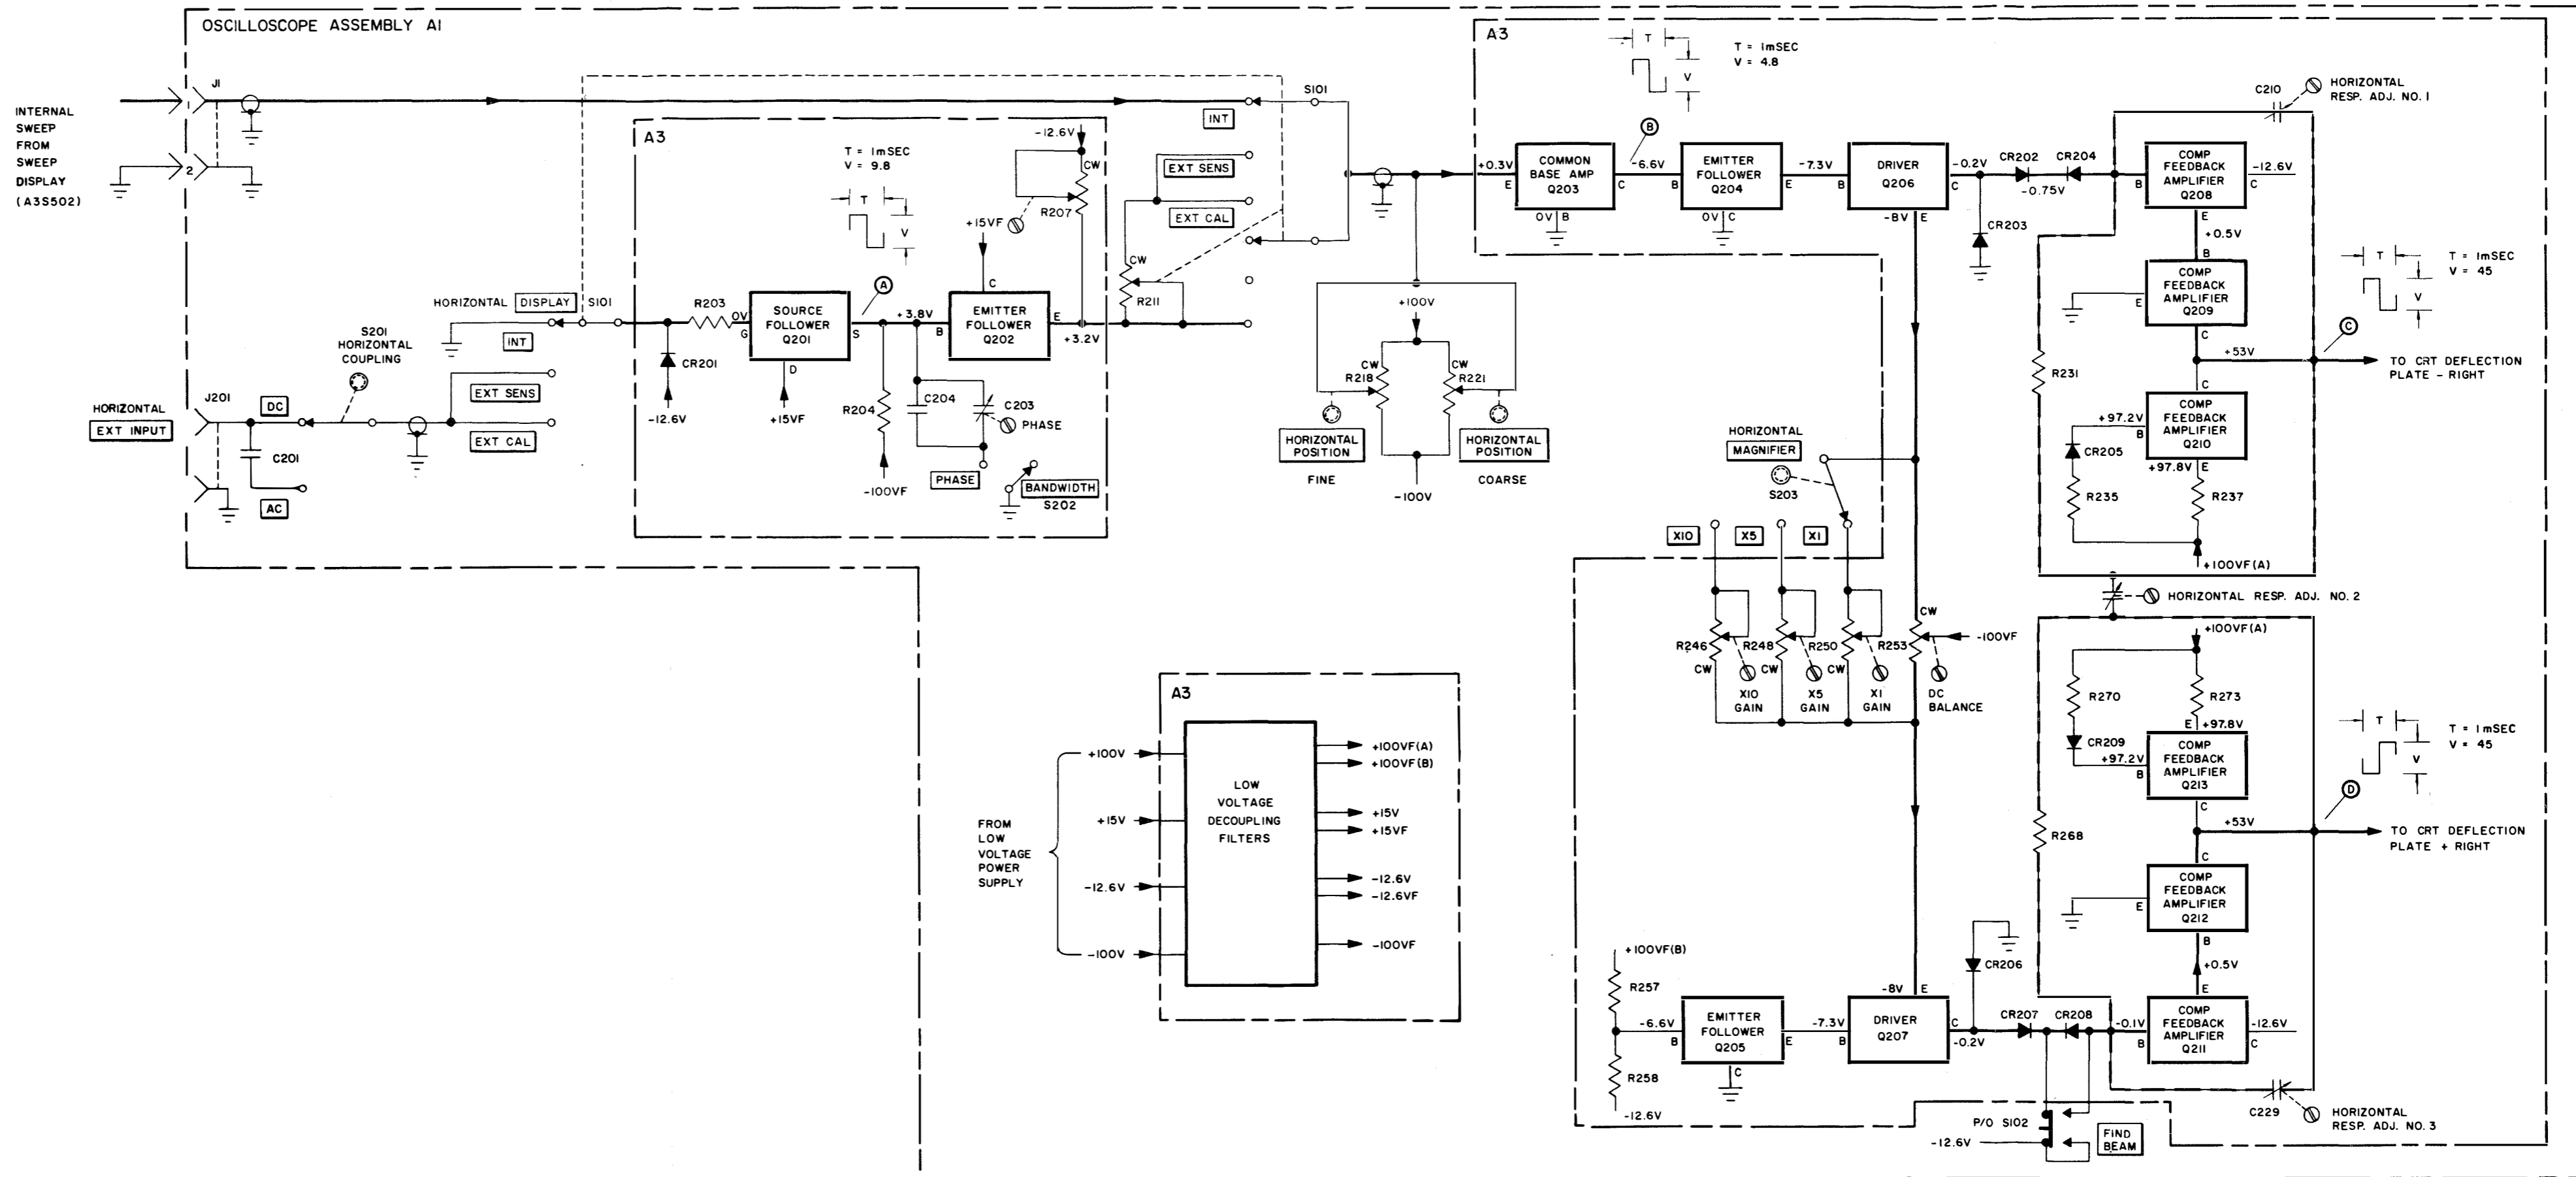

Figure 4-5. Horizontal Amplifier
a. HORIZONTAL AMPLIFIER FUNCTIONAL DESCRIPTION. - The input to the horizontal output amplifier (A1A3Q203 through A1A3Q213) is selected by horizontal DISPLAY switch A1S101. See figure 4-5. When A1S101 is set to the INT position the input to the preamplifier (A1A3Q201 through A1A3Q202) is grounded and the internal sweep signal from the time base and delay generator is applied to the horizontal output amplifier. When A1S101 is set to the EXT SENS or EXT CAL position, the internal sweep is removed from the horizontal output amplifier and the preamplifier output is applied to the horizontal output amplifier. The input preamplifier is connected to the horizontal EXT INPUT connector. When horizontal DISPLAY A1S101 is in the EXT SENS position, the output of the preamplifier is adjustable by rotating A1S101 between the EXT SENS and EXT CAL positions. In the EXT CAL position, A1R211 is shorted and the output amplitude of the preamplifier is determined only by input amplitude.
b. HORIZONTAL AMPLIFIER TROUBLE SHOOTING. - The trouble-shooting chart for the horizontal amplifier functional section is provided in table 4-5 and the servicing block diagram is shown in figure 4-5. A suspected trouble in the horizontal amplifier can sometimes be caused by the time base and delay generator. Before trouble shooting the horizontal amplifier, set the oscilloscope controls to obtain an internal sweep from the main time base generator (refer to Section 3) and observe the CRT. If a trace cannot be obtained, set the horizontal DISPLAY to EXT CAL and observe the CRT while rotating the
When it has been determined that the trouble is in the horizontal amplifier functional section, perform the procedures in table 4-5 to isolate the defective component. The horizontal section contains a decoupling filter network (see figure 4-5) that should also be checked while trouble shooting this section as a low voltage caused by a defective filter coil or capacitor would affect the operation of this section. When the defective component is located and the repair completed, perform the horizontal amplifier adjustment procedures in Section 5 to return this section to a functional condition.
c. USEFUL ILLUSTRATIONS. - Illustrations useful in maintaining this functional section are: Figures 4-5, 5-15, and 5-30.
If spot will not move horizontally, check transistors A1A3Q203 through A1A3Q207. Also check the decoupling filter network (see figure 4-5).